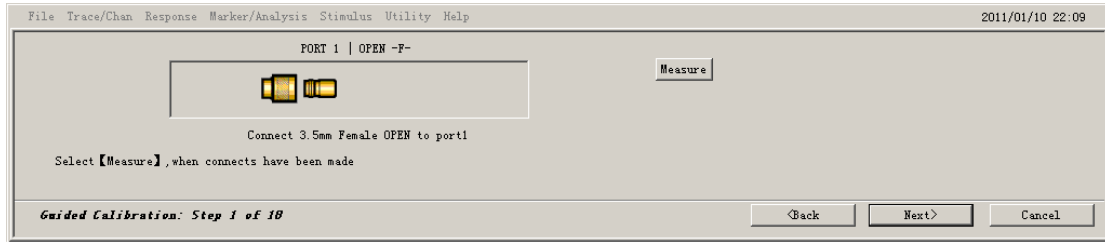
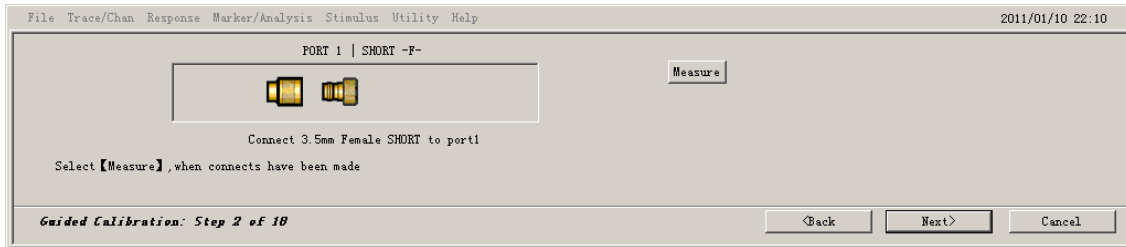
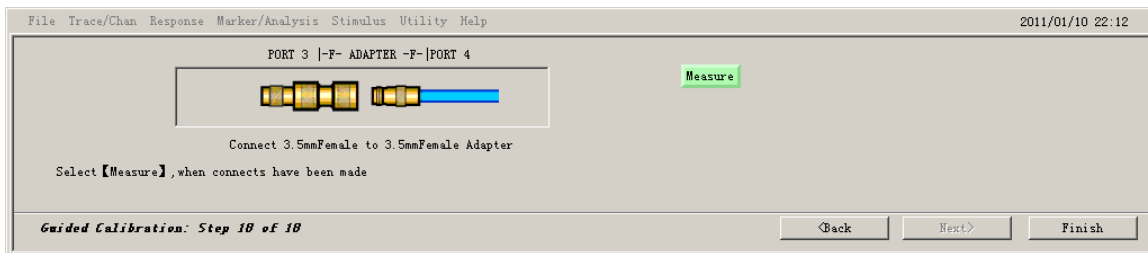
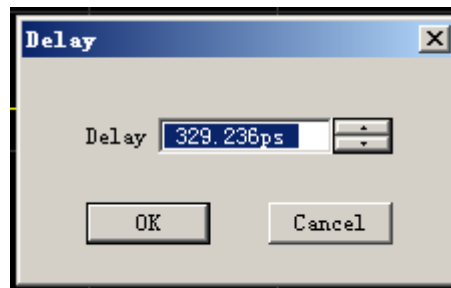

Fig.12-3 Interface of PORT1 OPEN Calibration
Fig.12-4 Interface of PORT1 SHORT Calibration
Fig. 12-5 Interface of the Full-port Calibration Completion
Fig. 12-6 Delay Dialog Box
- c) Click **[Next]** in the above picture to enter the calibration interface as shown in Fig. 12-3. Connect the OPEN standard to the the other end of the cable connected to the port 1. Press **[Measure]**, after PORT1 OPEN calibration is completed, and the dialog will automatically skip to the PORT1 SHORT calibration interface as shown in Fig. 12-4. Complete 18-step calibration of the full four-port in turn according to the prompts as shown in Fig. 12-5, and click **[Finish]**. 6 **[Delay]** dialogs of specifying the delay for the adapter as shown in Fig. 12-6 will pop up in turn, and then click **[OK]** to complete full four-port calibration.